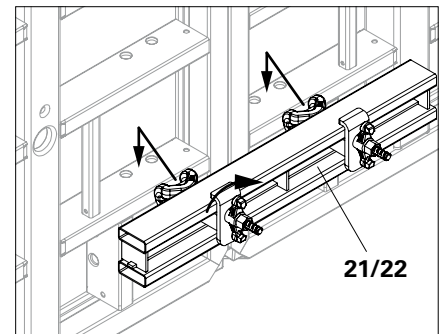

Fig. A4.06
2. Tighten nut – 2x. (Fig. A4.06)